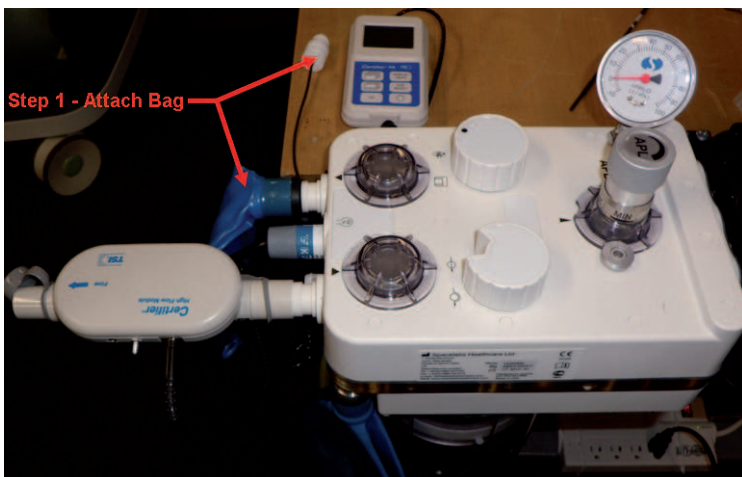

Figure 32 - Setup for Inspiratory Valve Test
1. Remove the O₂ sensor plug and attach an additional breathing bag to the inspiratory port (Figure 32).